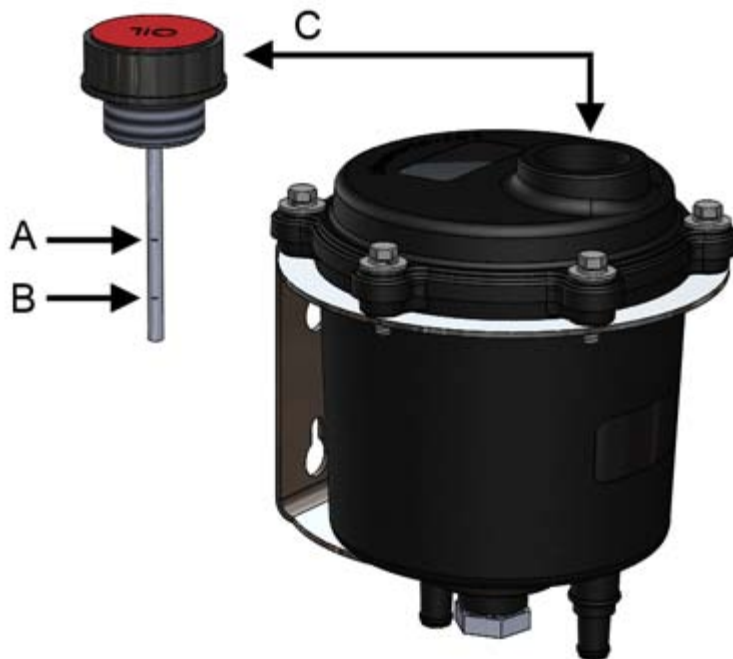

Figure 25. Checking the oil level
6. Check the oil level from the dipstick on the reservoir cap (figure 25, point B).
The system must have the right amount of oil. If it is necessary to add oil to the system, add it through the oil reservoir cap (figure 25, point C). There is a dipstick on the reservoir cap with markings for maximum and minimum oil levels (figure 25).